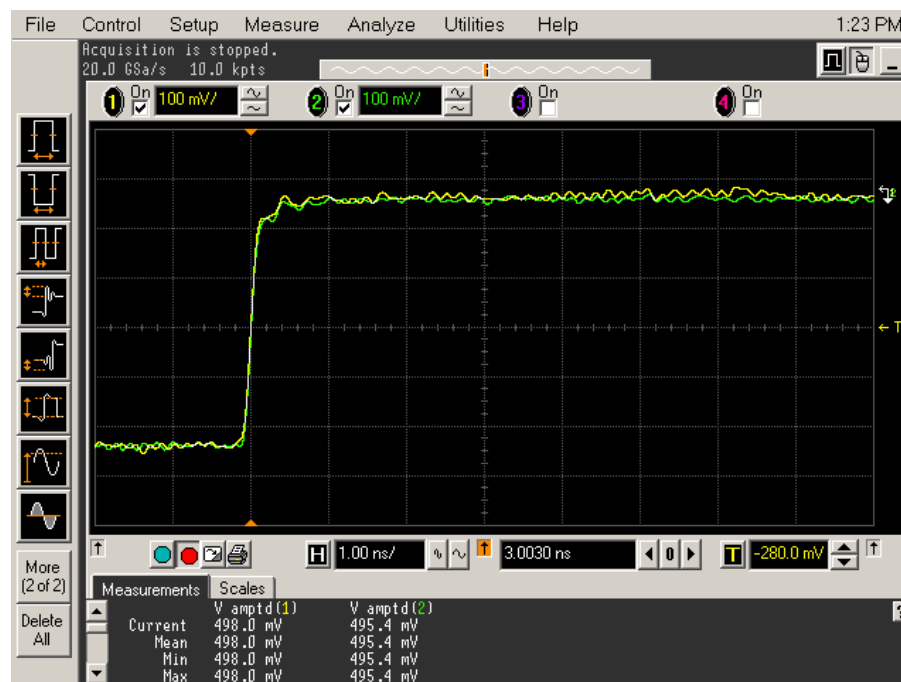

Figure 25 Calibration Probe Waveform Example
- 23 In the Acquisition Setup dialog box, enable averaging. When you close the dialog box, you should see waveforms similar to that in Figure 25.